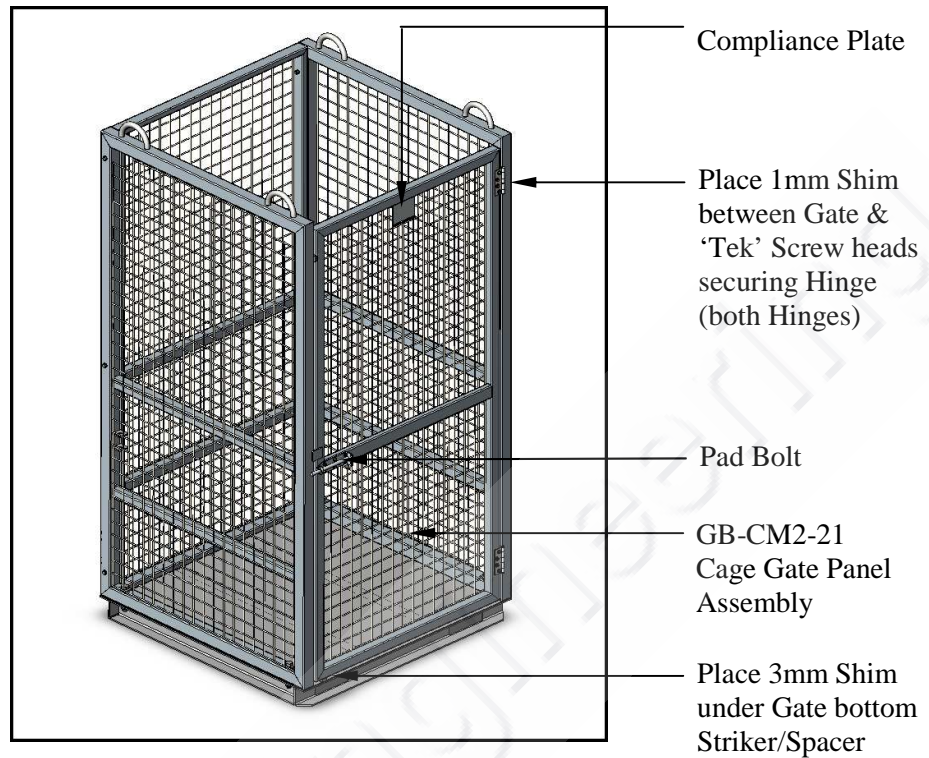
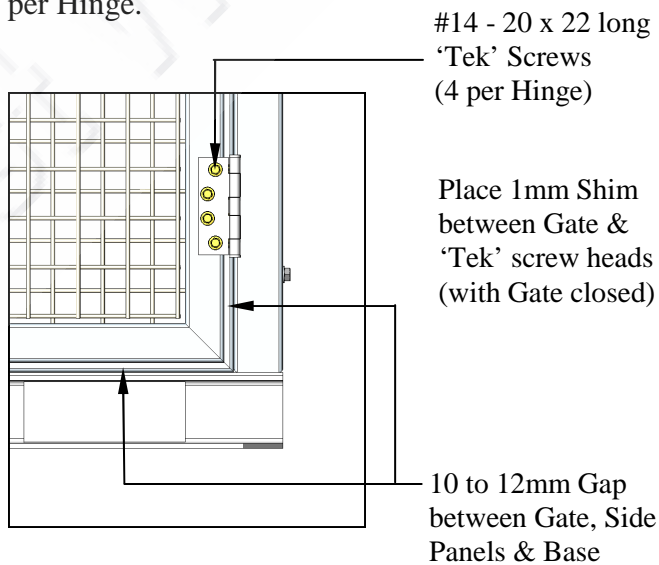
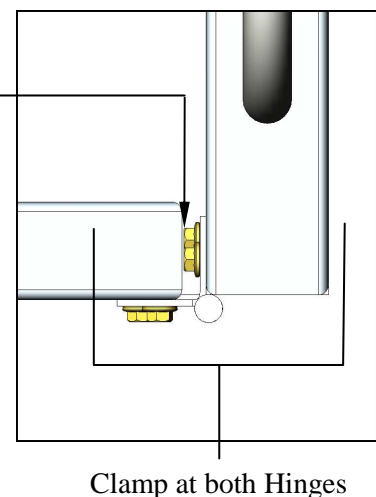

Figure 1.4
Figure 1.5
Figure 1.6
- G) Fit the Cage Gate Panel Assembly (Item 5) between the Side Panels placing a 3mm shim (supplied) under the Gate bottom striker/spacer and 1mm shims (supplied) between the Gate and 'Tek' Screw heads as shown in Figure 1.6 below. Ensure the Gate is orientated as shown in Figure 1.4 above – Pad Bolt opposite Hinges on the outside, Compliance Plate at the top. Align the front of the Gate with the front of the Side Panels ensuring an even gap between Gate, Side Panels and Base of about 10 to 12mm as shown in Figure 1.5. Clamp the Gate to the RH Side Panel and secure Hinges using #14 – 20 x 22 long 'Tek' Screws (Item 21), 4 per Hinge.